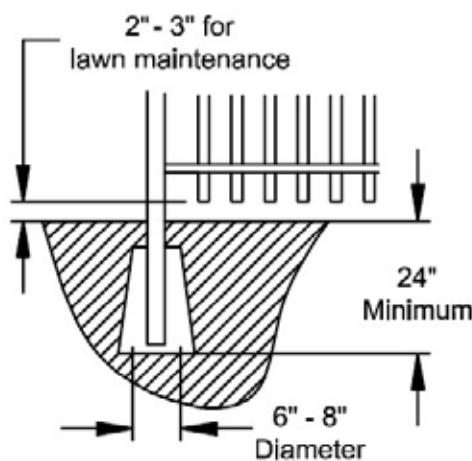

Fig. 2
1. Fence should be installed 2 - 3 inches off of the ground to allow gates to function properly, and to allow maintenance of the grass - Figure 2